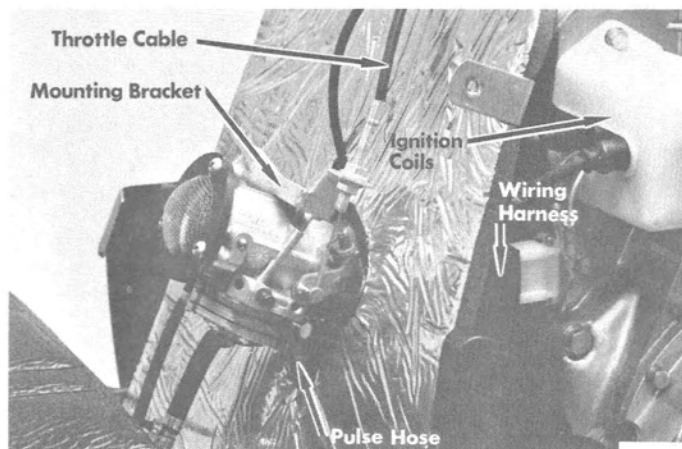

Figure 3. Engine Removal/Installation
9. Remove throttle and choke bracket from carburetor. (Figure 3)